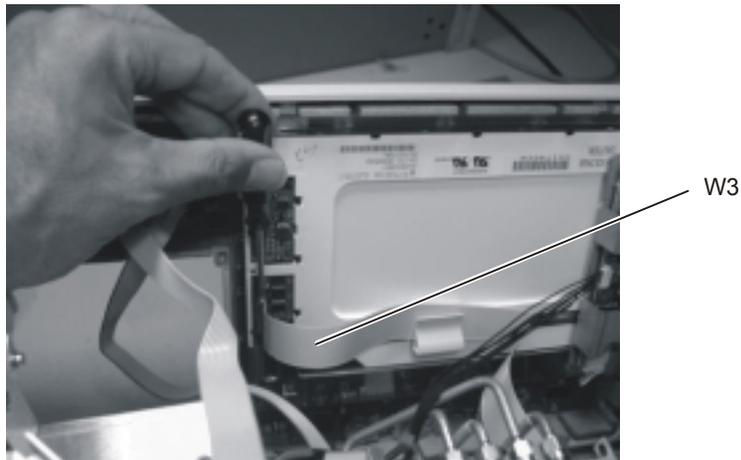

Figure 4-11. Disconnecting the W3 Mylar Flex Cable
- 7 Disconnect the W3 mylar flex cable, shown in Figure 4-11. Pry up the retainer slightly at either end of the connector, using a small flat-blade screwdriver. Do not force the retainer; it should remain attached to the body of the socket.